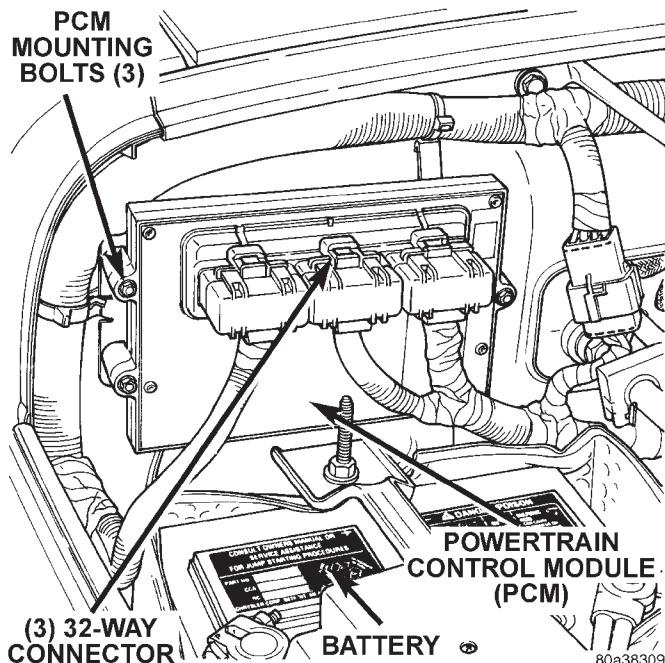

Fig. 43 PCM Location
The PCM is located in the engine compartment (Fig. 43).
- (1) Disconnect negative battery cable at battery.
- (2) Remove plastic shield from over 32-way connectors. Shield snaps to connectors.
- (3) Carefully unplug three 32-way connectors (Fig. 43) from PCM.
- (4) Remove three PCM mounting bolts and remove PCM from vehicle.